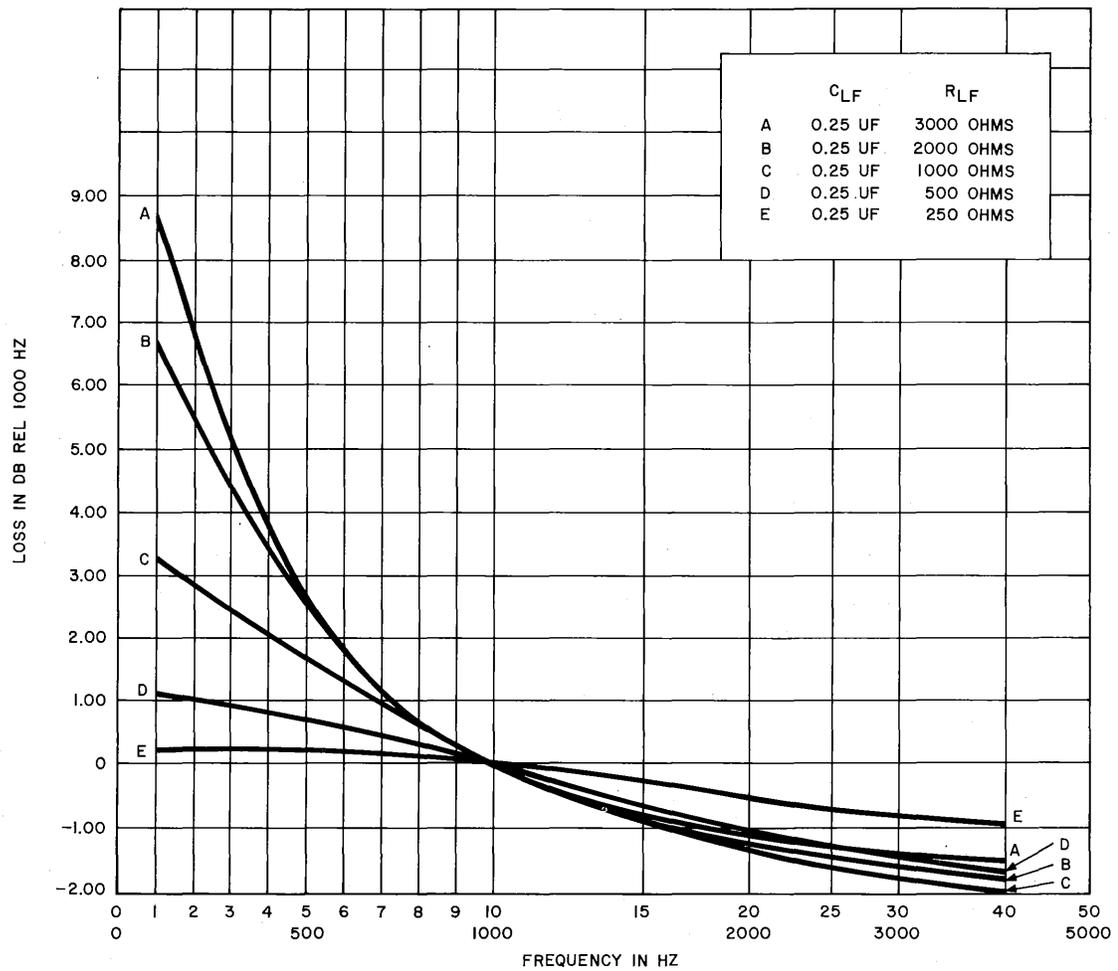
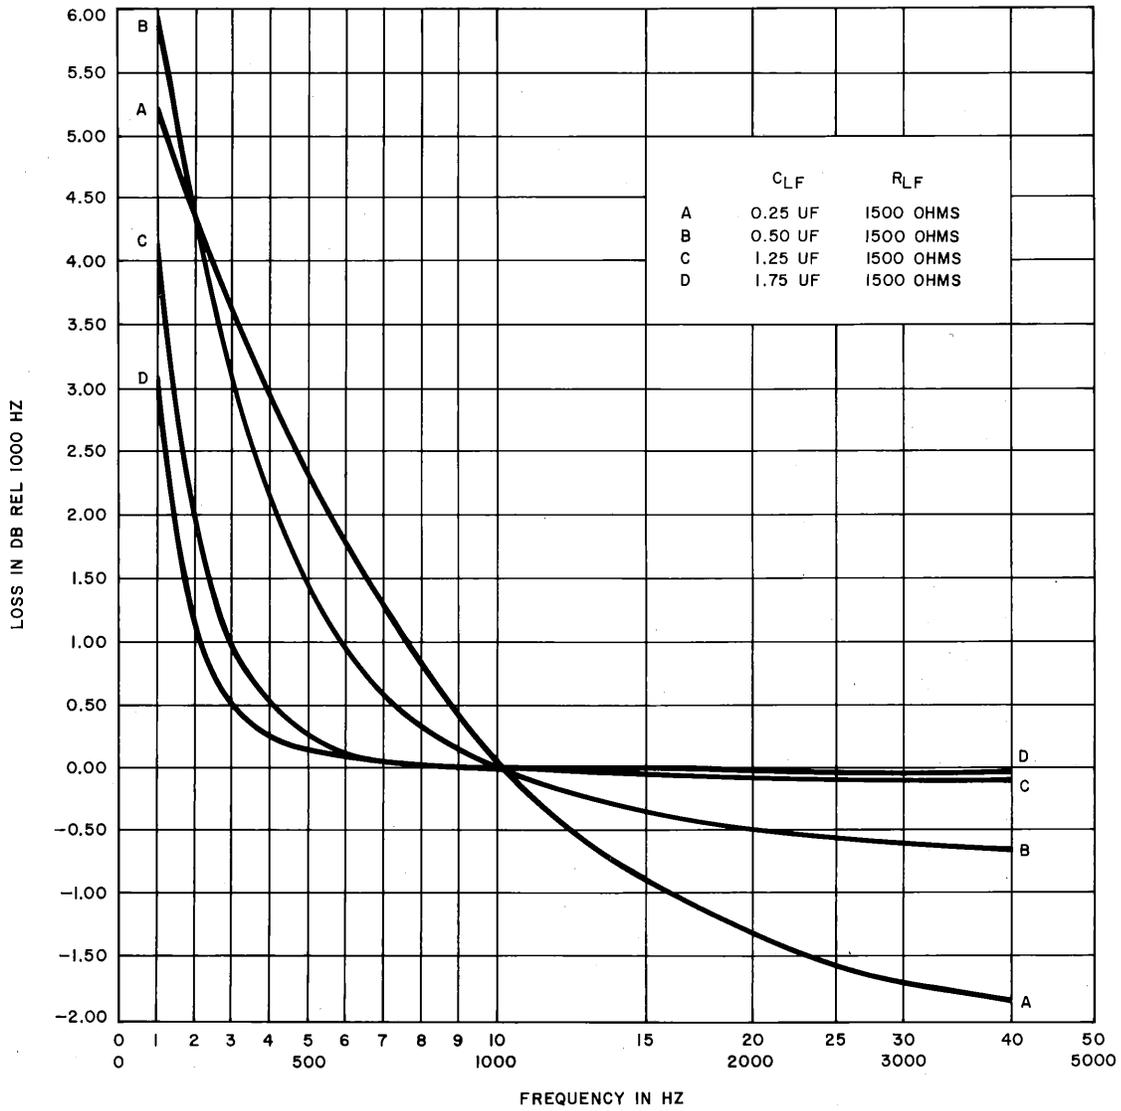

Fig. 4—4182C Network, Low-Frequency Section, Loss-Frequency Characteristics Between 600-Ohm Impedance—Varying R_{LF} For C_{LF} Constant at 0.25 μF
Fig. 5—4182C Network, Low-Frequency Section, Loss-Frequency Characteristics Between 600-Ohm Impedances—Varying C_{LF} For R_{LF} Constant at 1500 Ohms
4.03 Figures 4 through 9 are curves that illustrate the effect of varying the values of the components of the equalizer sections of the network.
4.04 The series arm low-frequency components (R_{LF} and C_{LF}) provide compensation for amplitude distortion in the 4-wire line facilities at frequencies up to approximately 1000 Hz. Figures 4 and 5 illustrate typical equalization losses which can be obtained by various combinations of C_{LF} and R_{LF} . Figure 4 shows the results of keeping C_{LF} constant at 0.25 μ F and varying R_{LF} with the HF section out of the circuit. Figure 5 shows the results of keeping R_{LF} constant at 1500 ohms and varying C_{LF} with the HF section out of the circuit.